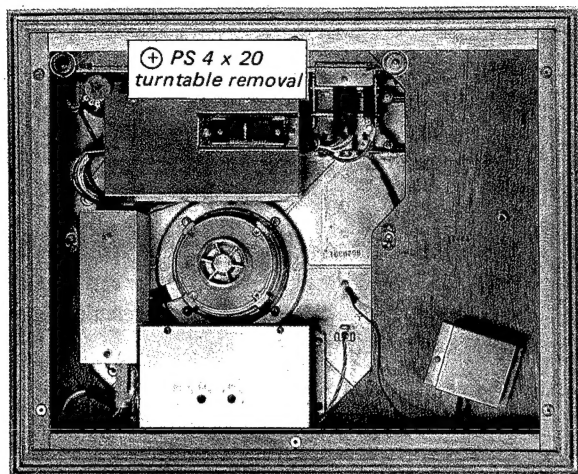

Fig. 2-4. Turntable base removal
3. Remove the three screws (⊕ P 5 x 16) and two screws (⊕ PS 4 x 20) securing the turntable base to the wooden case. This frees the turntable base. See Fig. 2-4.